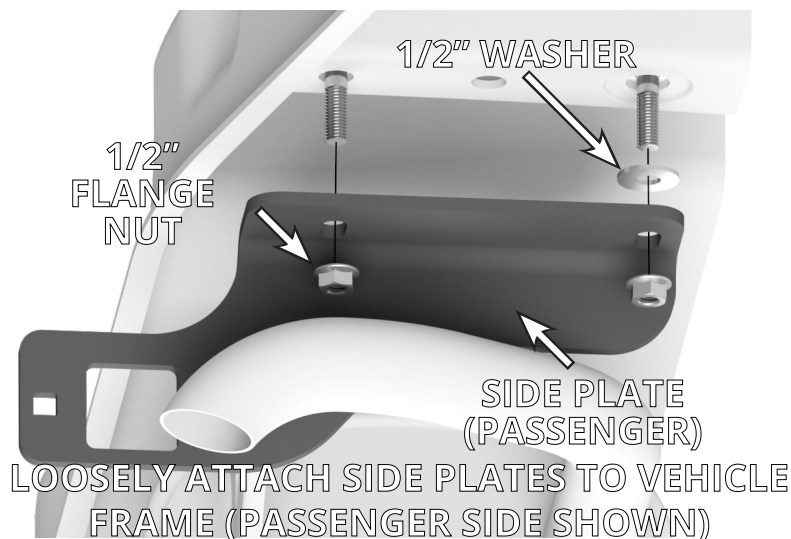

FIGURE C1: VIEW OF PASSENGER SIDE PLATE INSTALL
- Attach each side plate to the vehicle using the two 1/2 x 1-1/4" carriage bolts that are positioned inside the chassis channels. A 1/2" flat washer should be placed between the side plate and the chassis channel around the forward bolt. Pass each side plate up over the bolts and secure them with two 1/2" flange nuts, as shown in Figure C1. Loosely attach bolts at this time.